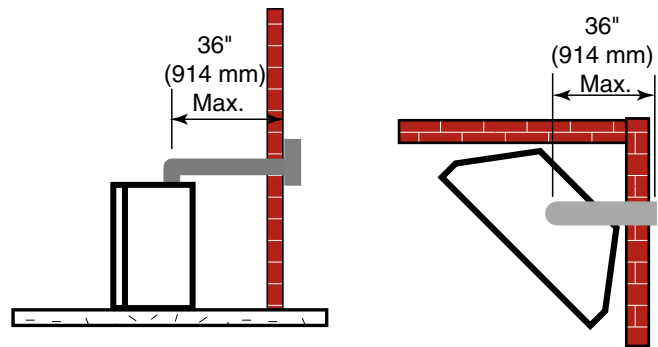

Figure 15 -
- A minimum of 24" is required before a 90° elbow. If a 90° elbow is fitted directly after 24" vertical section mounted to the top of the fireplace, the maximum horizontal vent run before the termination or a vertical rise is 36" (914 mm). *Figure 15*